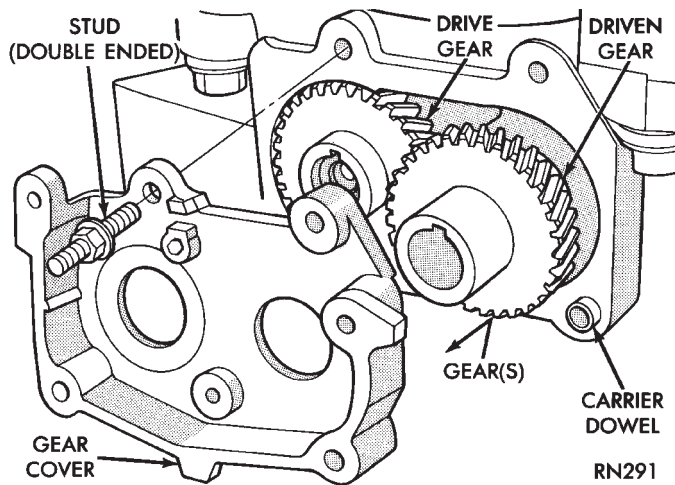

Fig. 36 Gear Cover and Gears
(4) Remove carrier gear cover and balance shafts (Fig. 36).
(5) Remove four carrier to crankcase attaching bolts to separate carrier from engine bedplate.